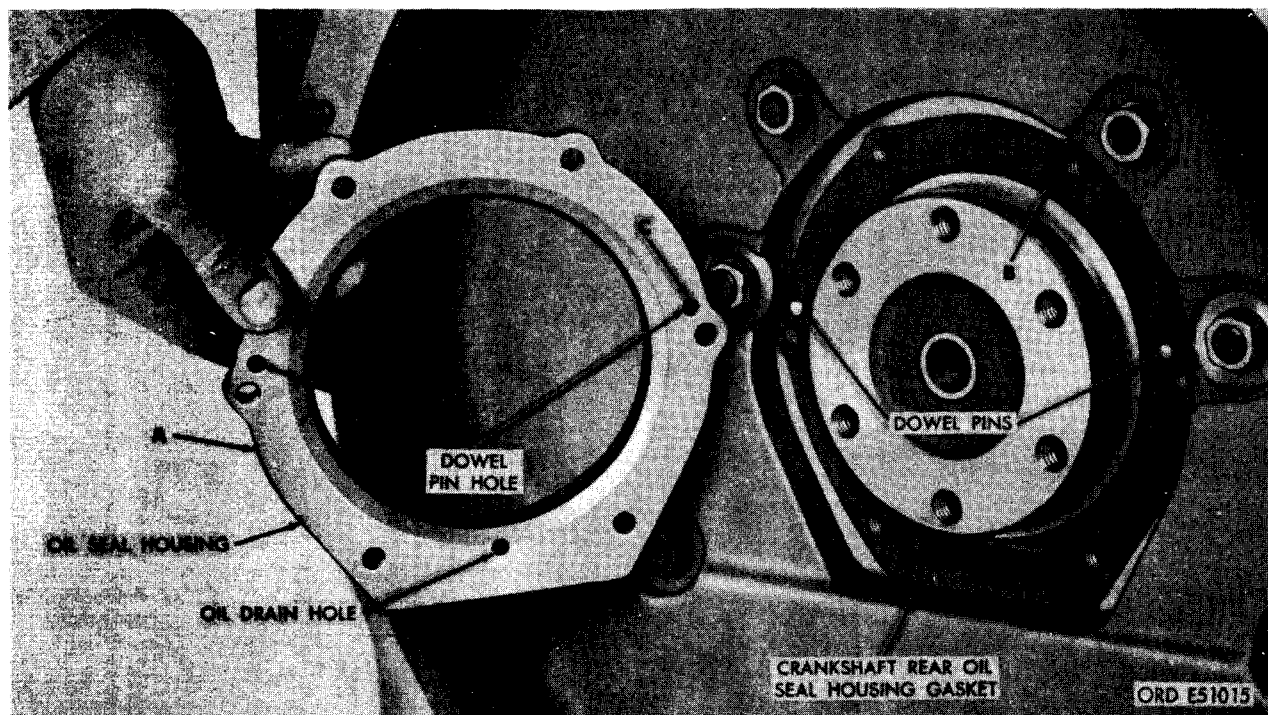

FIGURE 164. REMOVING AND INSTALLING CRANKSHAFT REAR OIL SEAL AND HOUSING ASSEMBLY AND GASKET.
- (4) Figure 164. (A) Remove crankshaft rear oil seal and housing assembly. (B) Remove and discard crankshaft rear oil seal housing gasket. (C) Note the dowel pin holes in oil seal housing and locating dowel pins in crankcase. Dowel pins insure proper housing alignment so oil seal lip is concentric with crankshaft seal surface.